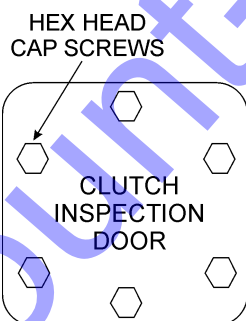

Figure 48. Clutch Inspection Door
3. To gain access to the "**clutch Inspection door**" remove the six 1/2-inch cap screws (Figure 48)and lock washers that secure the clutch inspection door. Remove door and gasket.
5. Refer to Figure 48 for steps 5A through 5F: